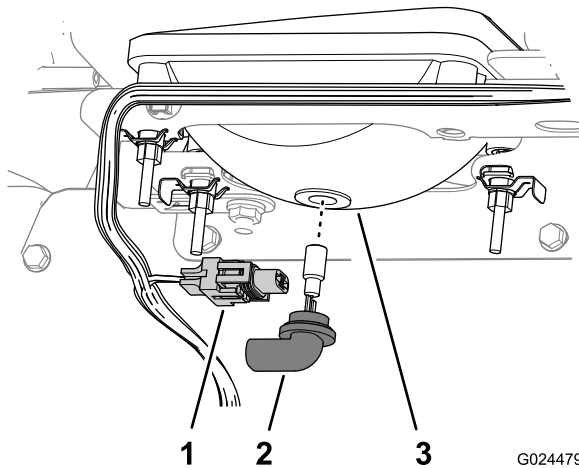

Figure 58
3. Disconnect the electrical connector for the harness from the connector of the lamp assembly at the back of the headlight housing (Figure 58).
4. Rotate the lamp assembly 1/4 turn counterclockwise and moving it rearward, out of the headlight housing (Figure 58).
5. Insert the new lamp assembly and headlight housing and align the tabs in the lamp assembly with the slots in the headlight housing (Figure 58).
6. Secure lamp assembly by turning it 1/4 turn clockwise (Figure 58).
7. Connect the electrical connector for the harness to the connector of the new lamp assembly (Figure 58).